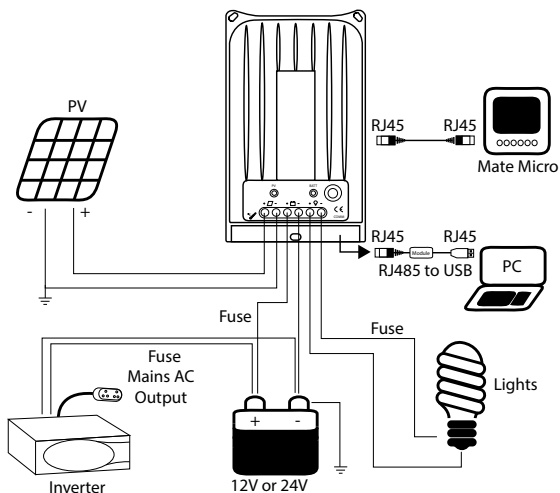

Fig. 3-1, Installation Overview
1. Connect components to the charge controller as shown in Fig. 3-1, noting the + (Red) and - (Black) connections.